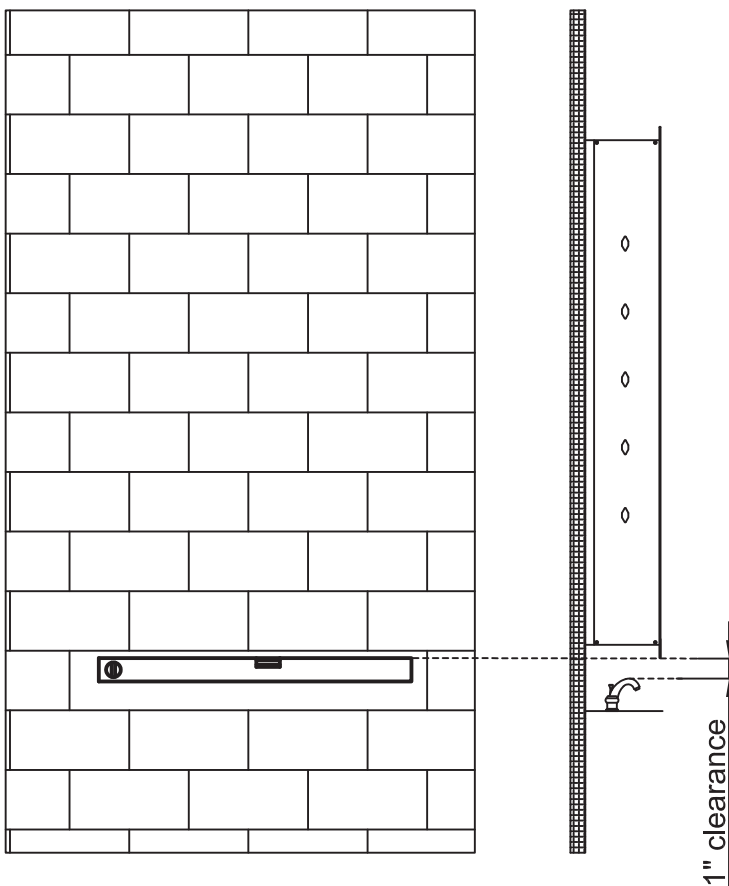

Fig 6
1. Establish precise height and draw a level horizontal line (Fig 6).